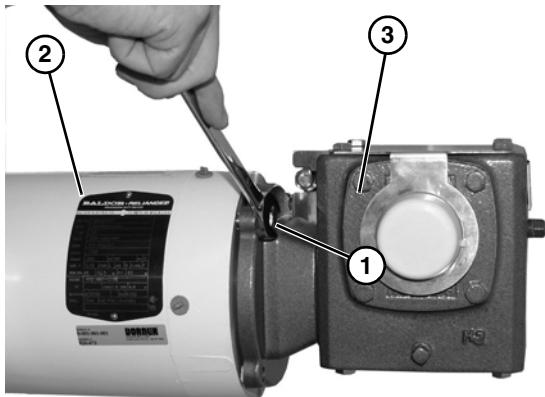

Figure 20
4. Remove four bolts (Figure 20, item 1) securing motor (Figure 20, item 2) to gear reducer (Figure 20, item 3).